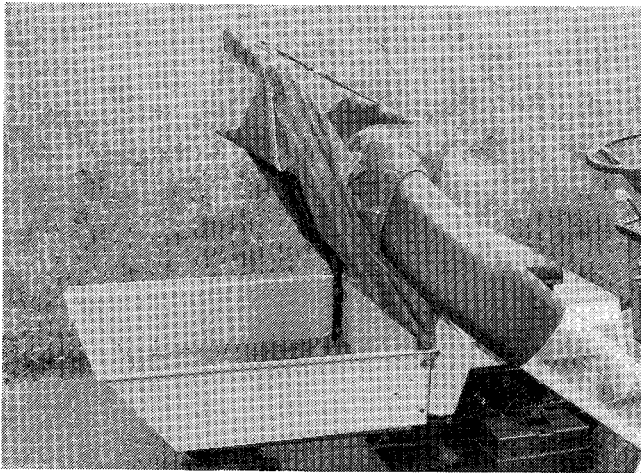

Figure 25.
2. Unhook the strap from the door lock and raise the cover assembly to the open position. Lock the cover in place by hooking the strap to the locking tab (figure 25).